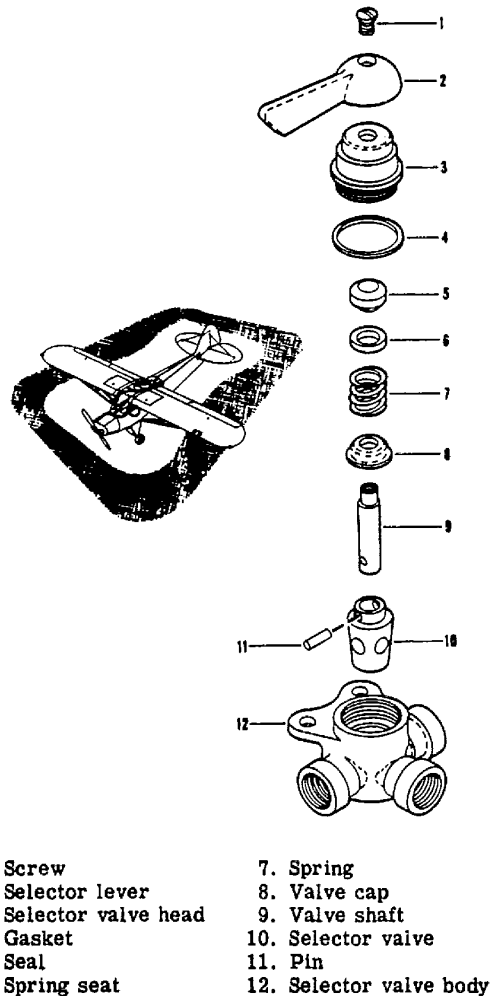

Figure 5-9. Fuel Valve Assembly
5-33. **SERVICING THE FUEL VALVE.** (See figure 5-9.) Inspect the fuel valve (figure 5-9) for evidence
of leakage. If the valve leaks or if it does not function properly, drain the fuel system, disassemble the valve in accordance with figure 5-9 and clean the passages thoroughly. Reassemble the valve assembly and connect it to the fuel lines according to figure 5-16. Tighten selector valve head (3) until all evidence of leakage disappears. If the fuel selector valve does not function properly following these corrective measures, replace it with a new one.